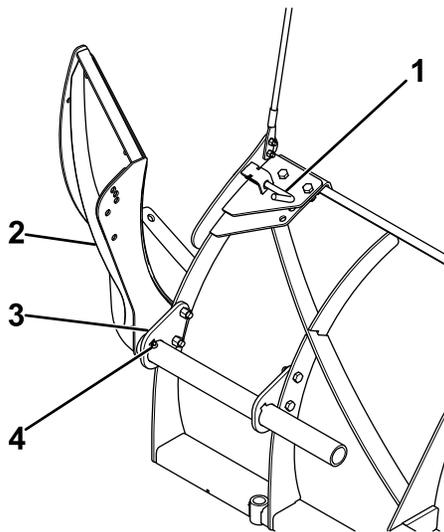

**Figure 18**
- Loosely attach the rib brackets to the plow using 4 bolts (1/2 x 1-1/2 inches) and locknuts (Figure 18).